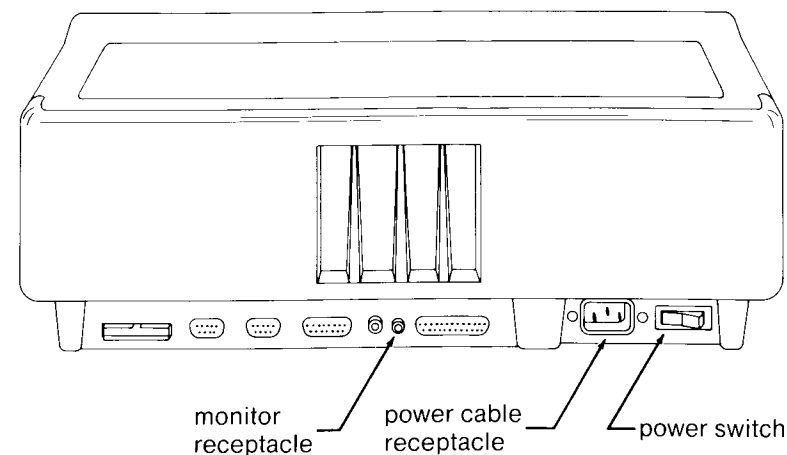

Figure 2
1. Set the Apple III power switch to the OFF position (see Figure 2).